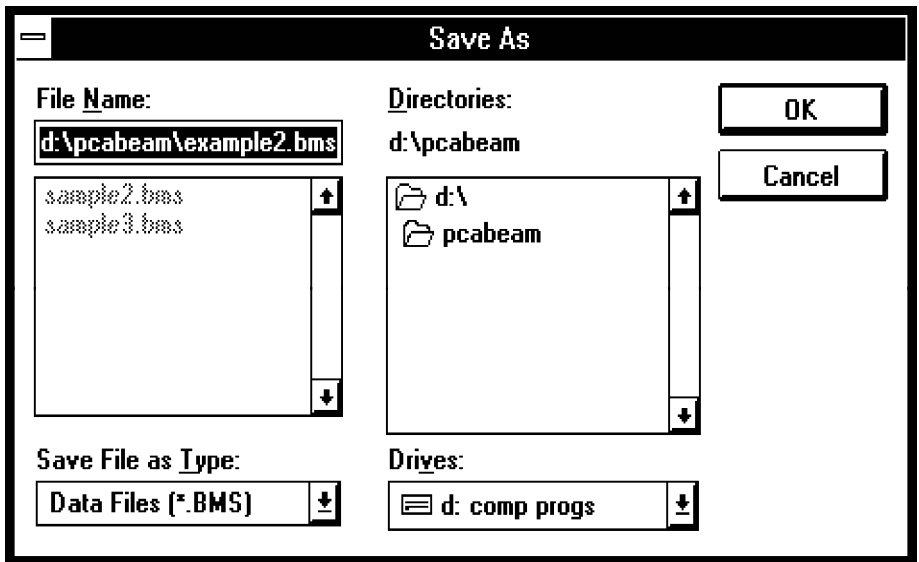

Figure 4-2—The Save As dialog box
- From the **File** menu, select **Save As**. The dialog box of Figure 4-2 appears. All files with a BMS extension contained in the current drive and directory are displayed in the FILE NAME list box.